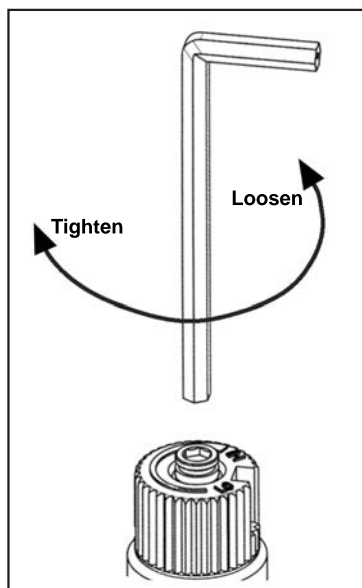

Figure 14: Removing valve screw.
- b) Insert a 5/32" or 4 mm Allen wrench into the hexagonal key-way of the screw (see Figure 14), rotate it counter-clockwise until it is free and extract it.
- e) Using the Allen wrench as shown in Figure 14, rotate the screw clockwise until a torque of 9 inch lbs. **WARNING!** Do not over tighten the screw. It is recommended that you grip the wrench by the short side.